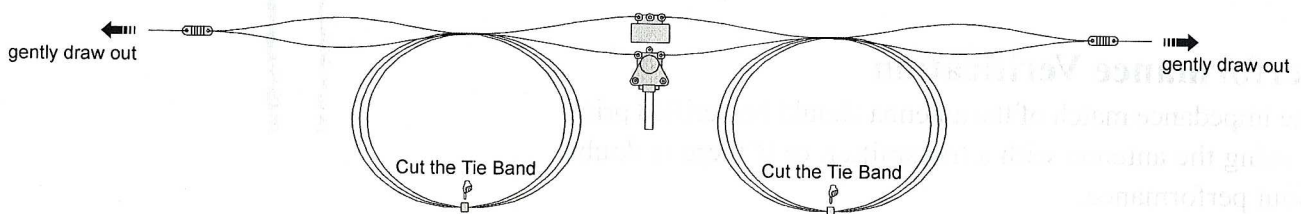

Figure 1
1. Refer to Figure 1 below, remove the Tie Bands, lift the insulators on the both ends of the antenna wire and carefully unroll the antenna wire.